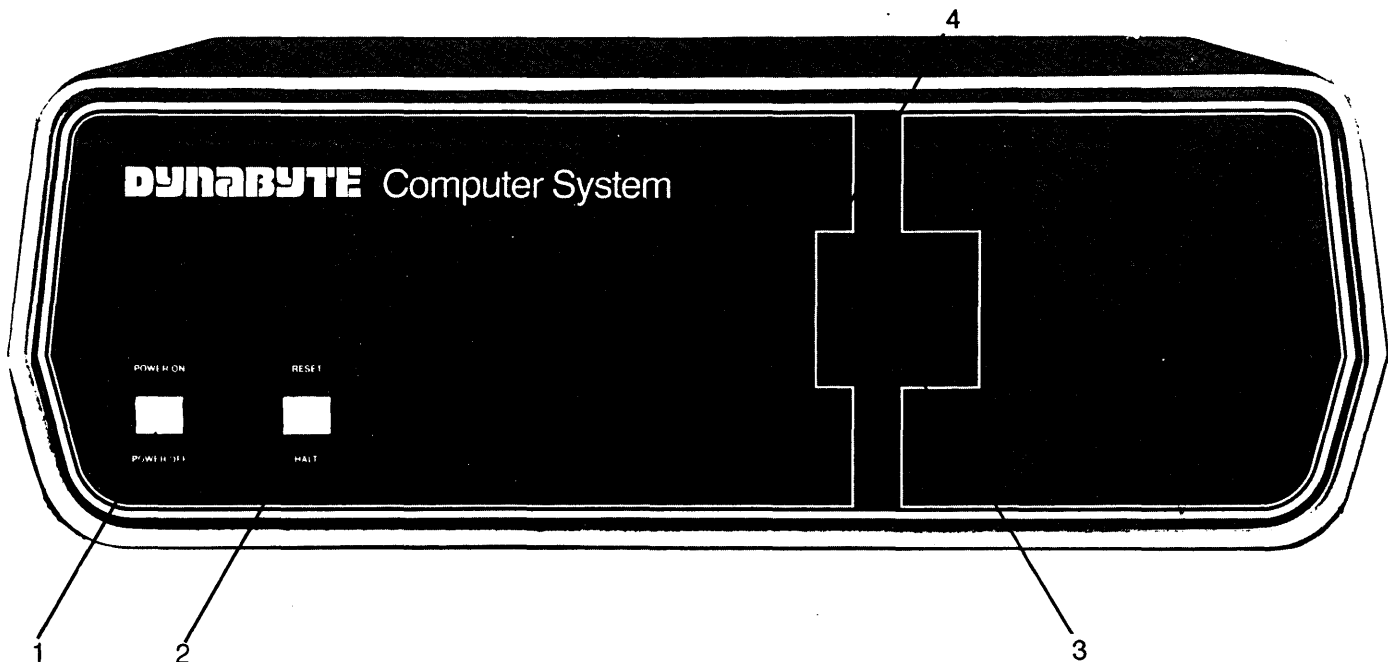

Figure 2-1 — 5505 Computer, Front Panel 807129
2.04 Figures 2-1 and 2-2 provide number key callouts of all components located on the front, rear and interior of the 5505. Associated Tables 2-1 through 2-3 provide a cross reference for each callout, identifying the respective part as to function, description and/or designation.
2.05 Refer to Figure 2-1 for the description which follows. The 5505 Computer Front Panel has only two operating controls with which the user should be concerned.
by the POWER ON Switch on the front panel - refer to Figure 2-1, Key 1 - and is protected by fuse, Key 2, above.